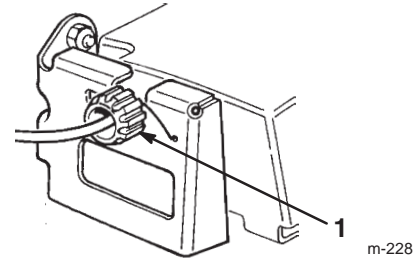

Figure 32
2. Rotate the control knob clockwise 1/2 turn if the lawn mower does not self-propel. If the lawn mower creeps forward, rotate the knob 1/2 turn counterclockwise to loosen the belt (Fig. 32).